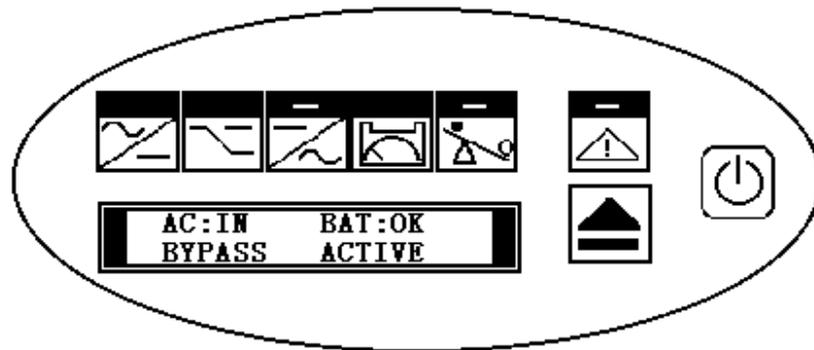

Fig15
- b. Will ON/OFF button push down with front panel, follow on lightness of input indicator and bypass indicator, LCD display mains OK, battery OK, mains output through bypass, refer to Fig15